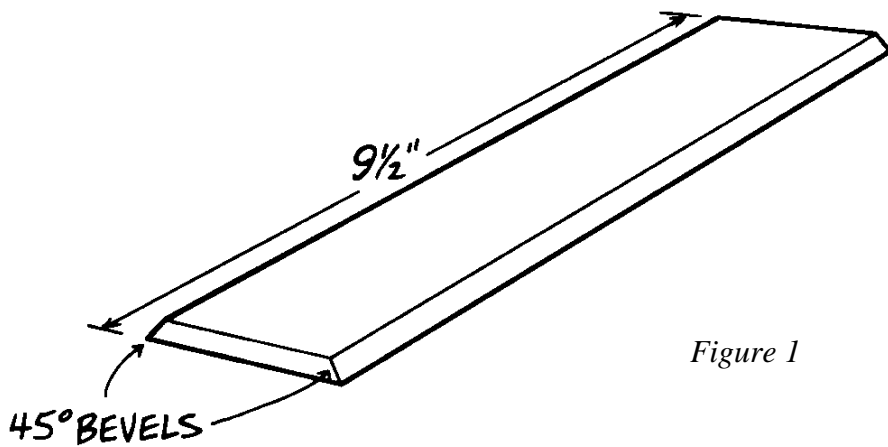
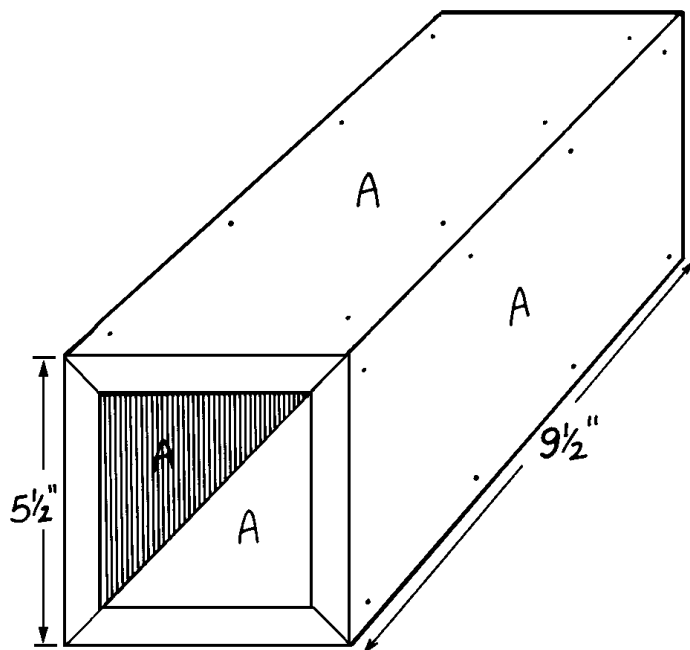

Figure 1
Figure 2
1. The lamp base has four identical 9-1/2"-long sides (A), which are cut from a single length of beveled 1 x 6 pine. To make the sides, first cut a 40" length of 1 x 6 and bevel both its long edges at a 45-degree angle, as shown in *Figure 1*.
2. Cut four 9-1/2"-long sides (A) from the beveled 1 x 6.
3. Glue together the beveled edges of the four sides (A) to form a hollow rectangle measuring 5-1/2" x 9-1/2", as shown in *Figure 2*. Secure the four sides by driving four wire brads through the beveled edges along each side of each joint.